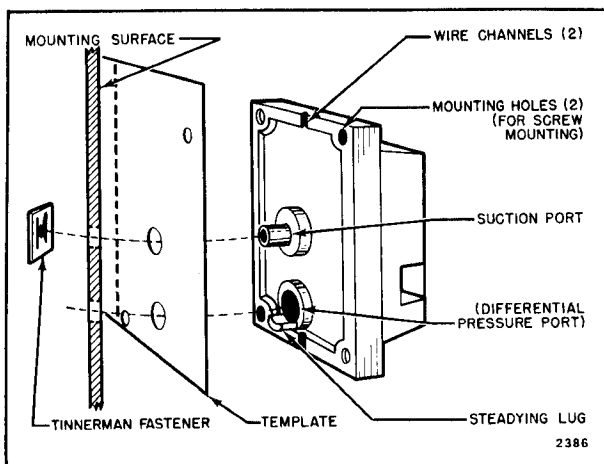

FIG. 2—SURFACE MOUNTING WITH TINNERMAN FASTENER.
4. Mount the case using the Tinnerman fastener and steadying lug (Fig. 2). An alternate method is to use two No. 6 sheetmetal screws (furnished), and remove the steadying lug or drill a hole for it in the mounting surface.
1. Carefully open the differential pressure port with a sharp, pointed object (Fig. 2).